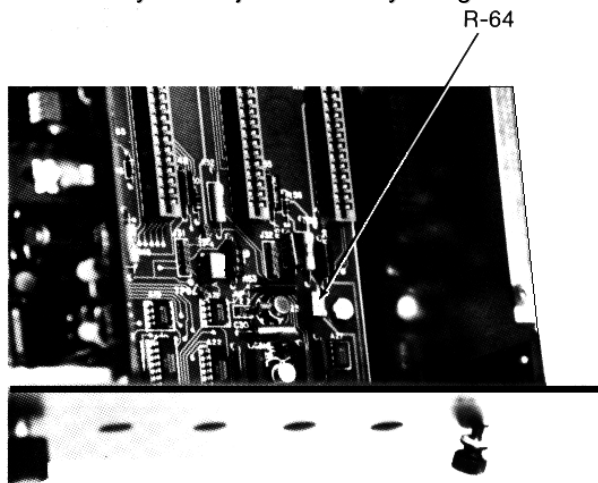

Figure 4
8. When all channels, including sum, are on zero add test weights to two or more platforms. With the 151 in the sum mode the indication should read the total weight applied to all platform. A minor adjustment, to the sum reading, is possible by using R-64. See Figure 4.